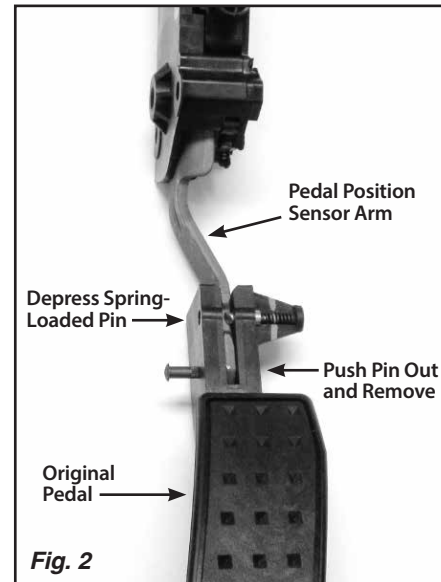

Fig. 2
**Step 1:** The original pedal is attached to the pedal position sensor arm with a steel pin that is pressed into the left side of the original pedal. Remove this pin by pushing it out from the right side of the pedal using a press or a hammer and punch. **Fig. 2**